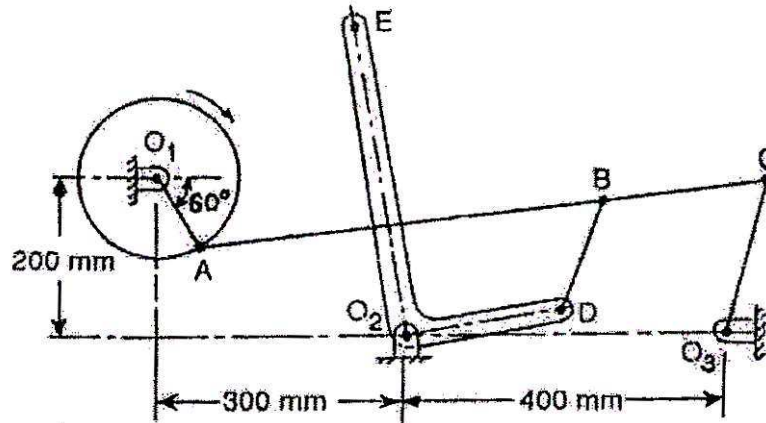

Fig. 3
4. (a) The mechanism of a wrapping machine as shown in Fig. 3 has the following dimensions; $O_1A = 100$ mm, $AC = 700$ mm, $BC = 200$ mm, $O_3C = 200$ mm, $O_2E = 400$ mm, $O_2D = 200$ mm and $BD = 150$ mm. The crank O_1A rotates at a uniform speed